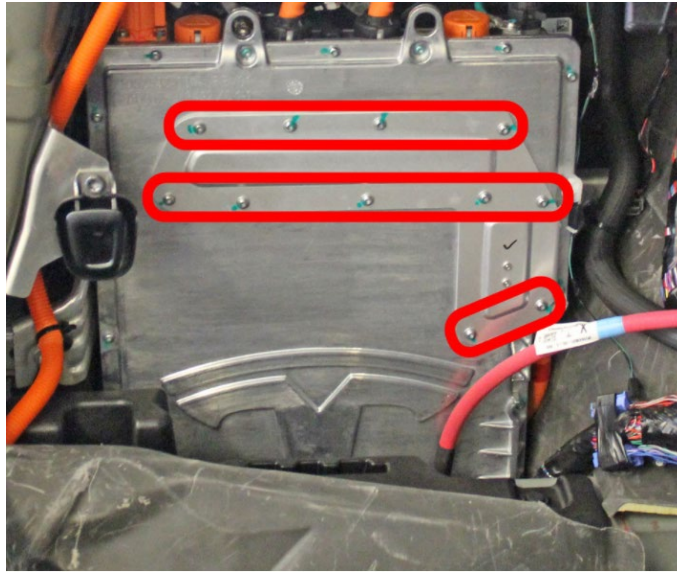

Figure 3
4. Remove the screws (x11) that attach the charger access panel (Figure 3).